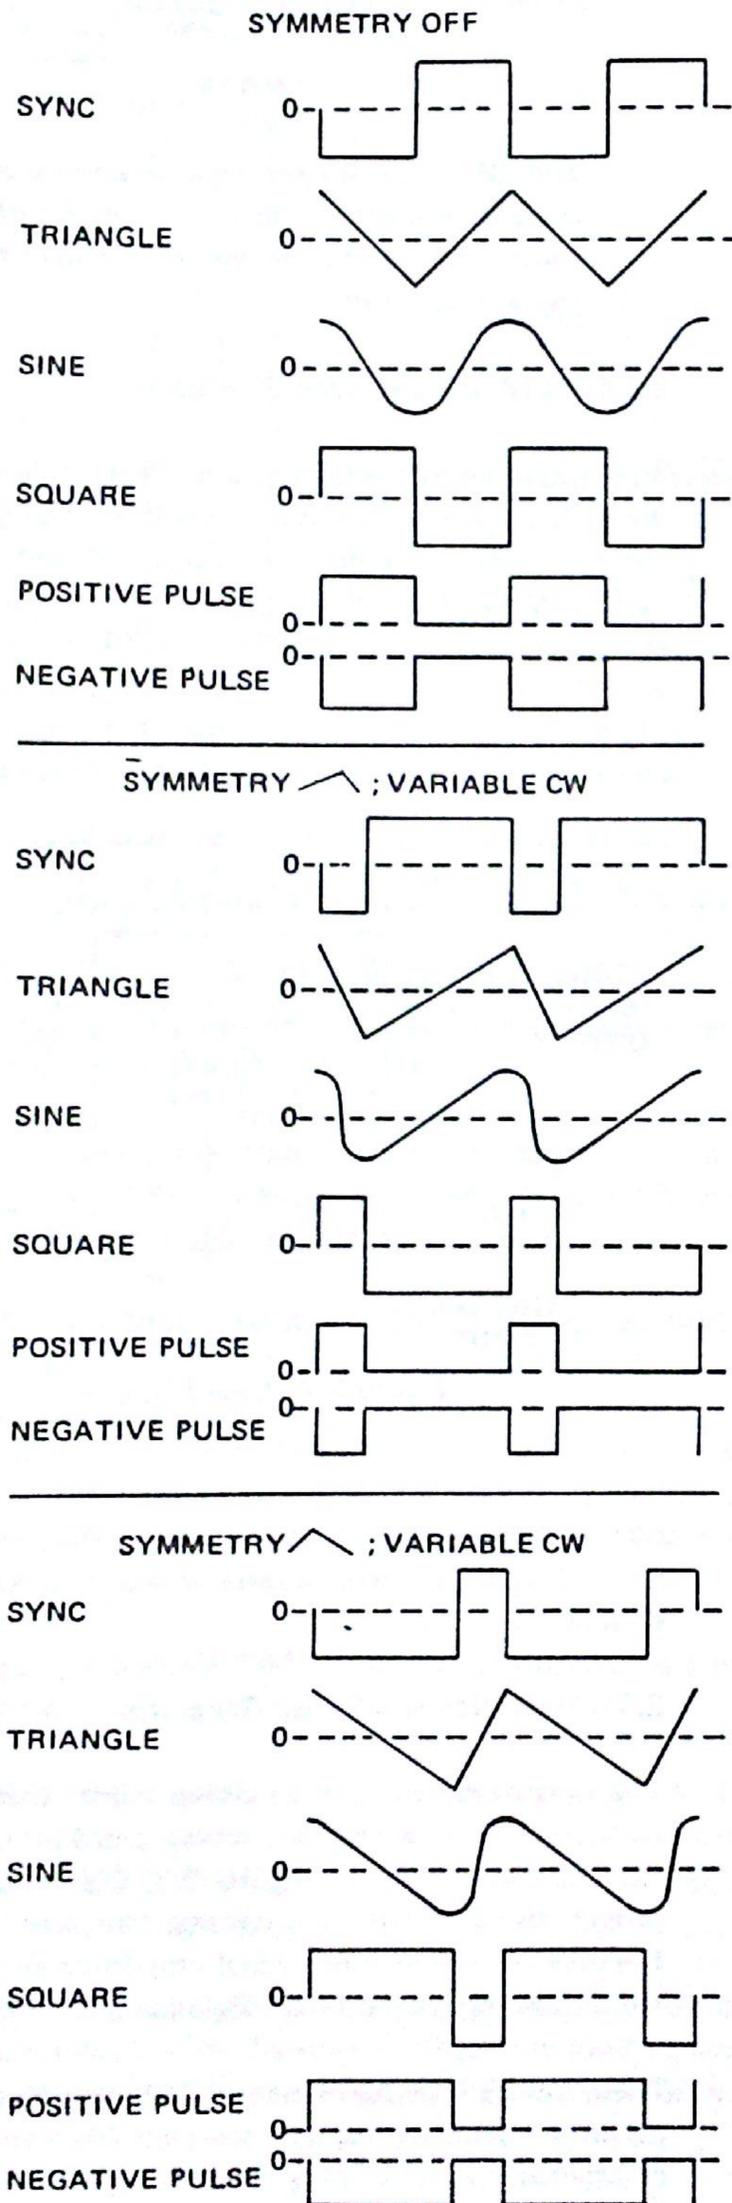

Figure 2-5. Waveform Phasing and Symmetry Control
8. Set SYMMETRY control for desired symmetry or asymmetry. The symmetry control can be used to develop ramp waveforms with variable rise/fall ratios and single or multiple pulses with variable duty cycles. By using the sine wave with asymmetry, controllable sine distortion can be developed. Figure 2-5 shows the effect of this control on output waveforms. The frequency of an asymmetrical waveform will be approximately a factor of 10 lower than the symmetrical waveform frequency output.